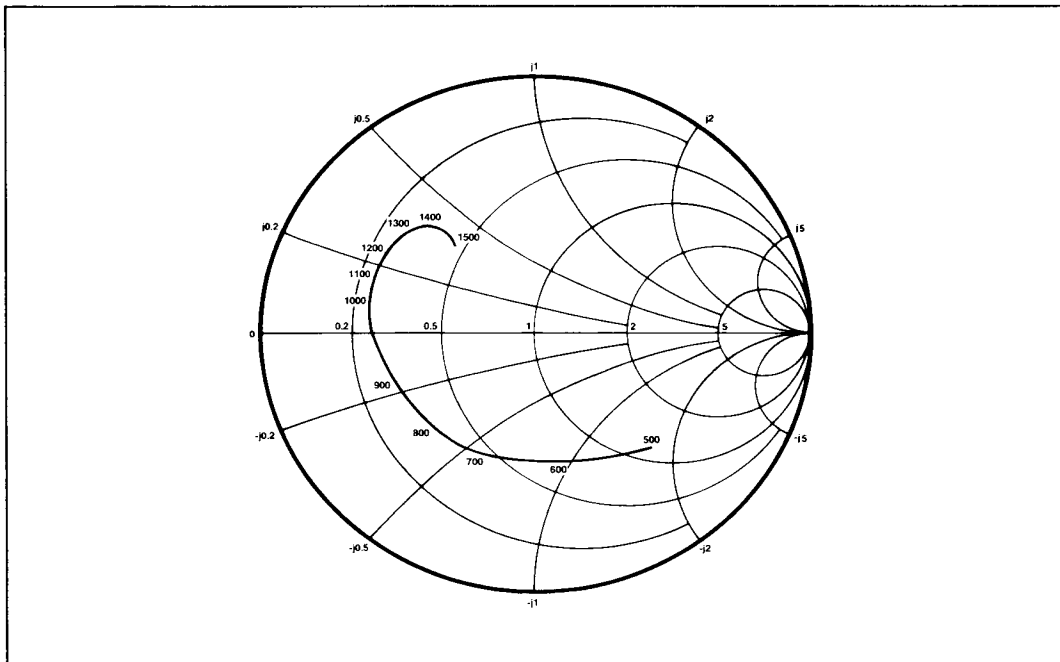

Fig.4 Typical input impedance. Test conditions: supply voltage -5.2V, ambient temperature 25°C, frequencies in MHz, impedances normalised to 50 ohms.
- The input impedance of the SP8610/11 is a function of frequency. See Fig. 4.